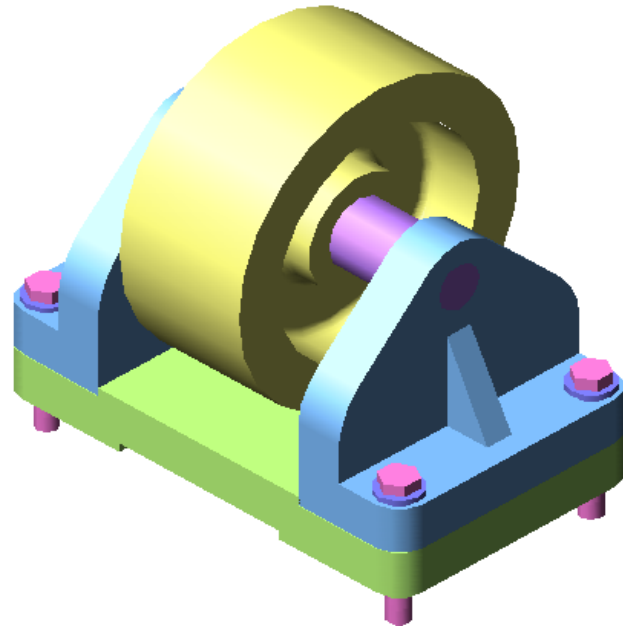

Figure Step 6
Step 6 Turn on all surface layers and turn off the layers: Model and Construction. (Figure Step 6)